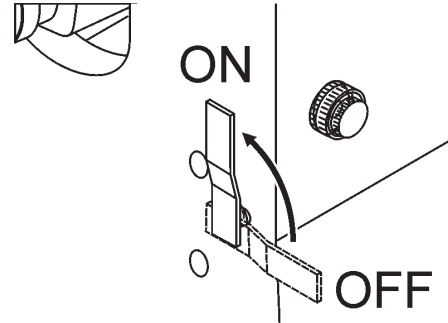

Figure 44. Water System ON/OFF Valve
4. Open the **water system valve** on the left side of the console by moving the lever to the **ON** position (Figure 44) and ensure the water is flowing equally to both sides of the diamond blade.
4. Place the water valve (Figure 44) in the **OFF** position (as required).